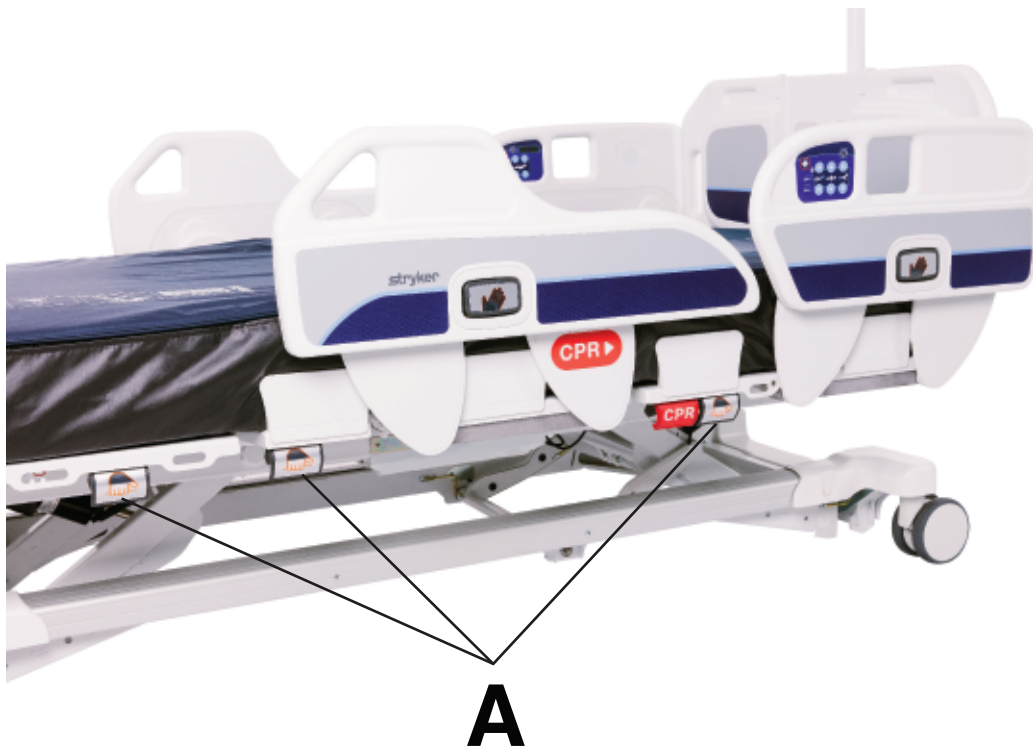

Figure 11 – Deck lever locations
1. Locate the deck levers (A) on the Fowler, knee Gatch, and foot sections of the litter deck (Figure 11).
3. Locate the deck levers (A) on the Fowler, knee Gatch, and foot sections of the litter deck (Figure 11).